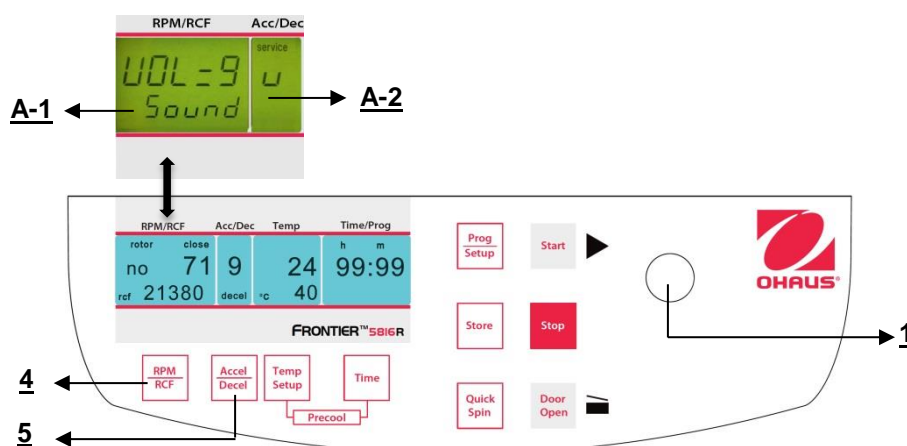

Figure. 33
Proceed as described under point 4.1.1 to enter this program mode and then press the key "Accel/Decel" (5). In the display "Acc/Dec" (A-2) the word "Service" flashes. Now select the letter "U" with the adjusting knob (1). As a result, in the display "RPM | RCF" (A-1) the words "Vol=0- 9/Sound" appear. After pressing the key "RPM | RCF" (4), you can adjust the desired volume between 0 (low) and 9 (loud) with the adjusting knob (1) (See figure 33).